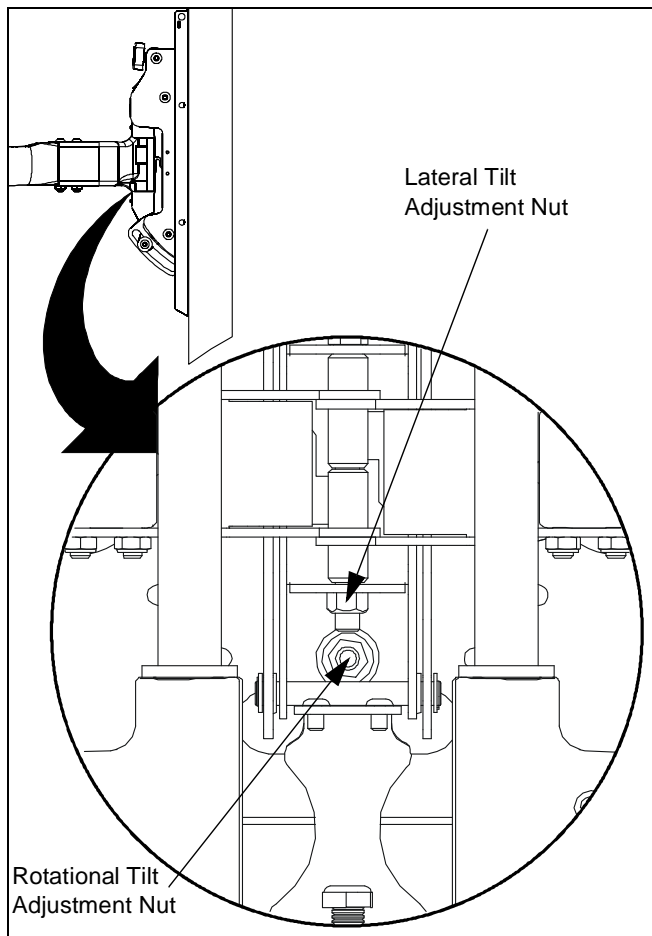

Figure 12
1. Using a 9/16" wrench (not provided), slightly tighten or loosen lateral tilt tension adjustment nut (See figure 12).
1. If necessary, loosen or tighten bottom rotational tilt tension adjustment nut (See figure 12).